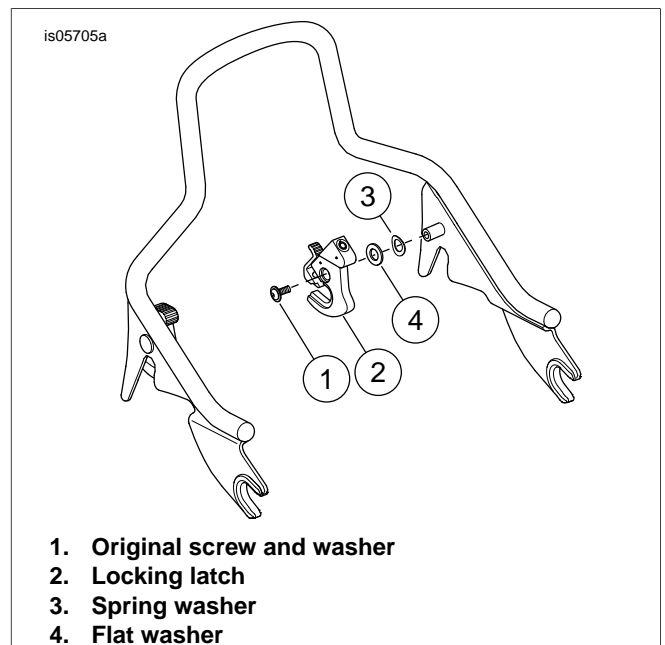

Figure 6. Inner Left Installation
2. See Figure 6. Install spring washer (3) on left mounting hub.
3. Install flat washer (4) from kit on mounting hub.
5. Install original screw and washer (1).